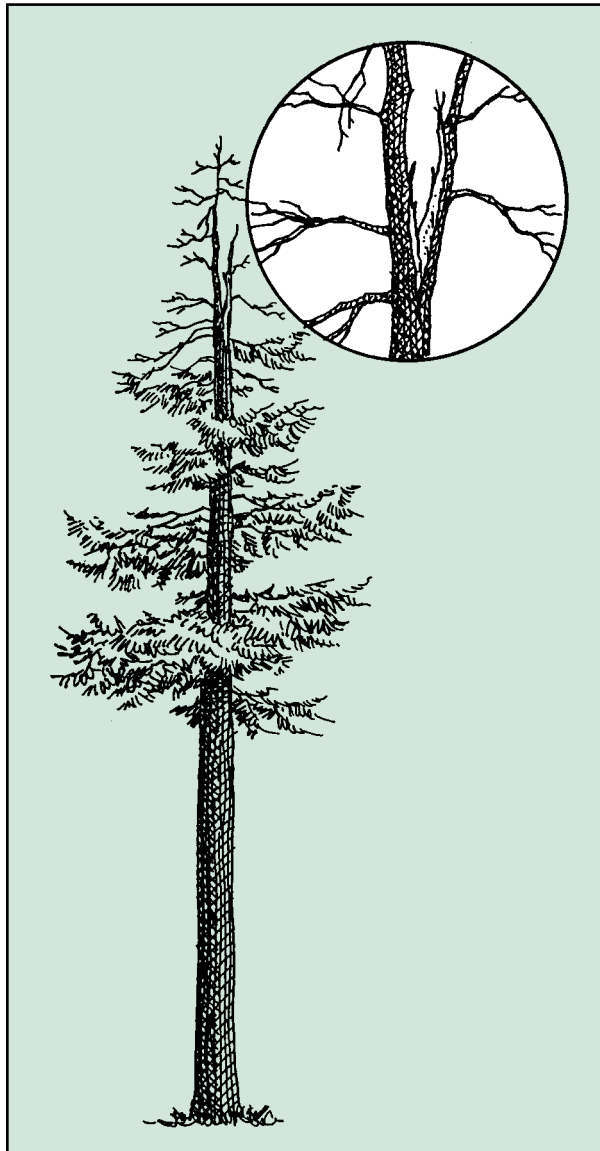

Fig. 5. — Reserve tree Type 3.
**Type 3** trees are live or dead trees with unstable tops or upper portions (Fig. 5).